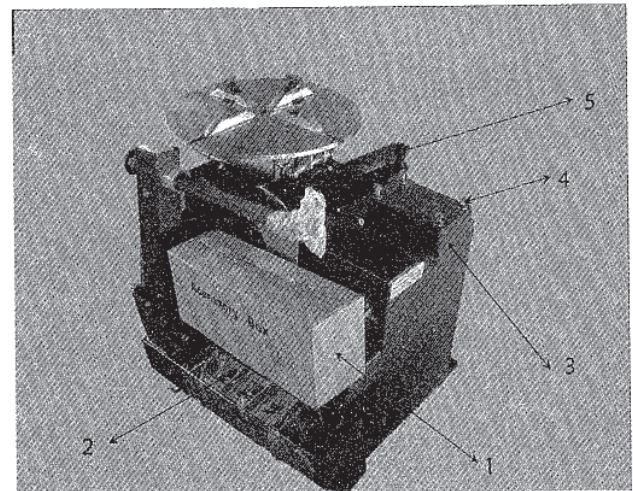
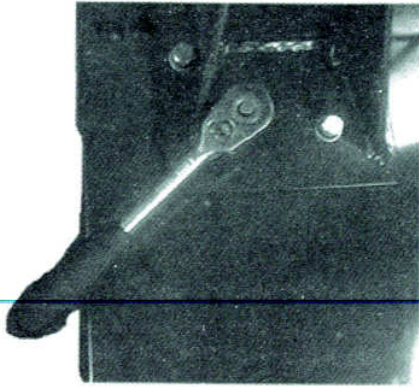

Fig 4-1
Fig 4-2
As shown in Fig 4-1, unpack the package box and take out the accessories (1) bead breaker arm (5) and column assembly (2) and fix the body as Fig4. Unscrew the hex screw (4) on the body and elastic washer and flat washer.
4.2.6 Position the column assembly on the body with the warning stick facing toward. Retighten the bolt, flat washer and elastic washer removed shown in Fig 4-1 evenly. The tighten torque is 70 N·M (Fig 4-2) and use the torque wrench to fix.